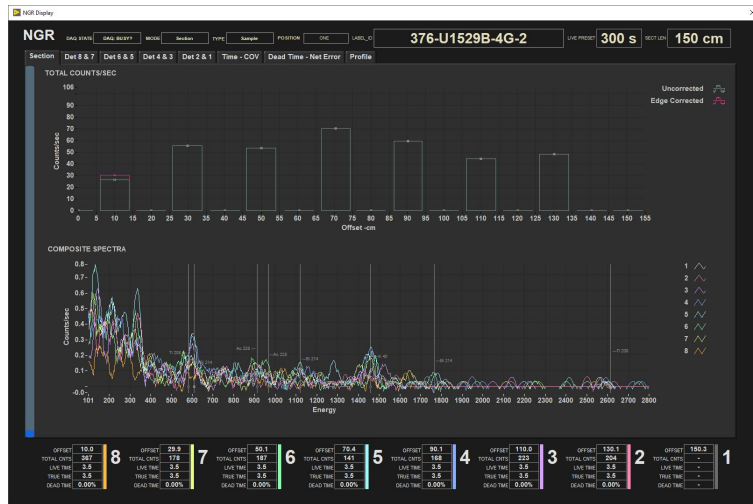

Figure 36. Core Analyzer Screen Showing Histogram.
7. As the sensors take measurements, counts are plotted vs. sensor number on the main screen. Hit the Detail/Summary button at the upper right of the screen to switch between the histogram vs. binned mode displays. The button name changes from Summary to Detail, depending on which view is selected (Figure 36 and 37).